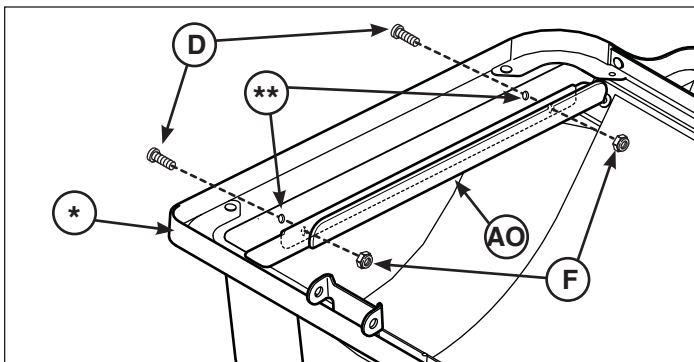

Figure 28
1. Hold deflector plate (AO, Figure 28) in cover (*) and mark new hole locations using deflector plate as a guide. Use Figures 28 and 29 as a reference to determine correct hole locations.
3. Secure deflector plate to cover using screws (D) and nuts (F).